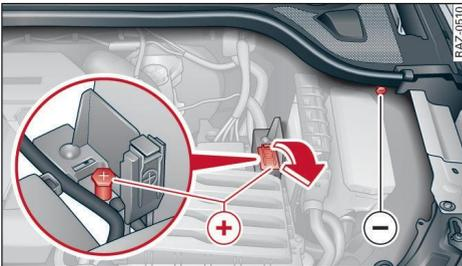

Fig. 143 Engine compartment with jump-start terminals: Terminals for jump leads or battery charger
- ▶ Applies to vehicles with jump-start connection (+) in engine compartment: Open the cap on the positive terminal ⇒ Fig. 143.